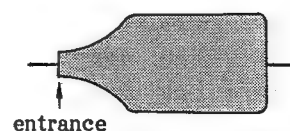

Fig. 6
- (4) Turn the TRACKING control knob to the FIXED position. Put the unit into the REV x 1 mode.
- (5) Check that the RF waveform envelope is small at the drum entrance side as shown in Fig. 6.